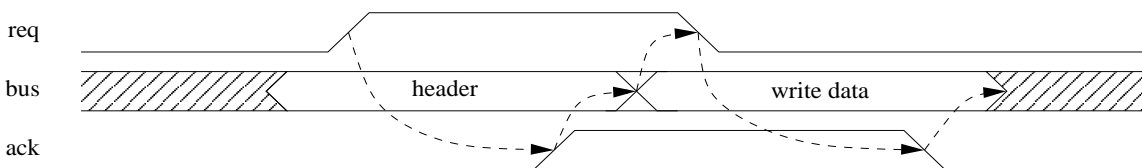

Figure 10: Timing diagram of an AHIP write.
**2.3.2.2 Writing and reading with AHIP** The host starts a write by placing the header on the bus and raising the req signal. After the slave observes that req is high, it reads the header word and raises the ack signal. After the host receives ack, it places the write data on the bus and lowers req. The slave reads the bus value and then lowers ack. The host will then free the data bus and both the host and the slave return to the idle state. Figure 10 shows the timing diagram of the transaction.